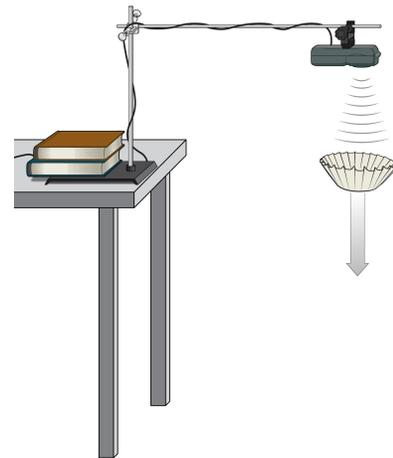

Figure 1
1. Set up the apparatus as shown in Figure 1.